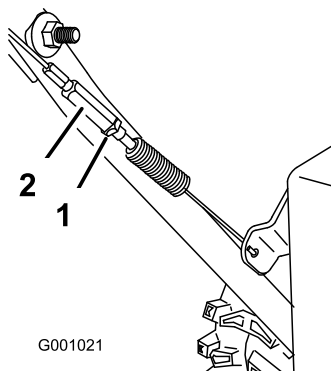

Figure 44
3. Tighten the jam nut (Figure 44).